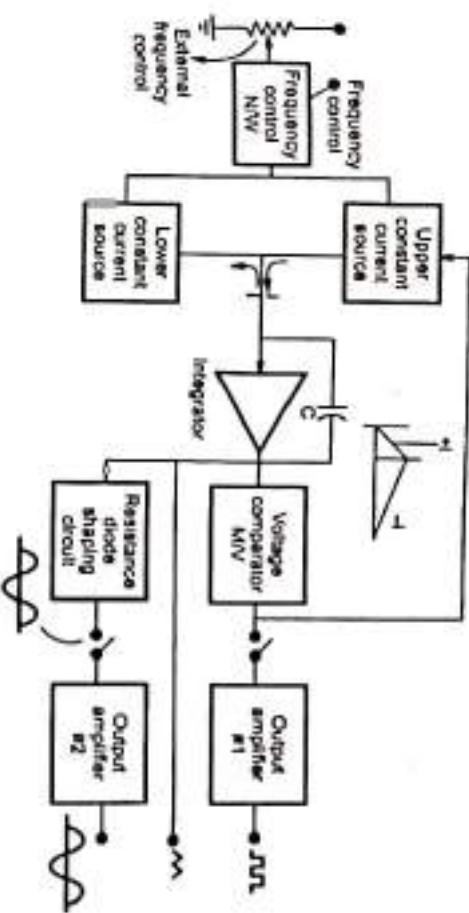

Fig. Q.3.1 Typical function generator
- The block diagram of a typical function generator is as shown in Fig. Q.3.1.